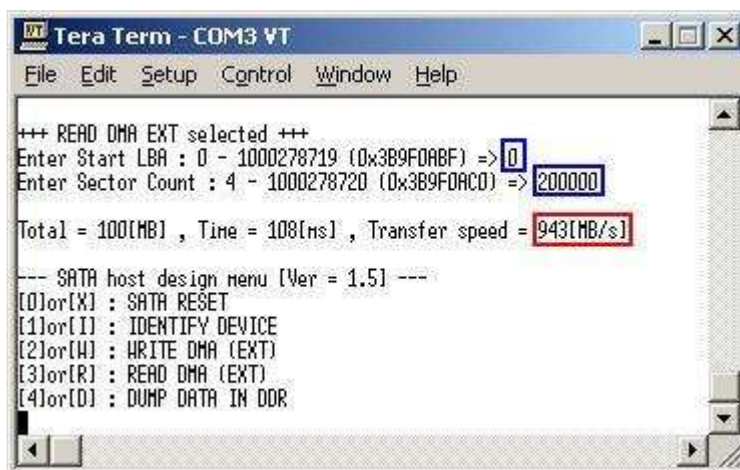

Figure 11 READ DMA (EXT) command without verify
- Sector Count: this value, divided by 4, is used to be total transfer size in sector unit (512 byte) to read HDD/SSD. If this value is more than 131072 which is equal to read buffer size (64 MB) value, transfer speed will be displayed as output without verify, as shown in Figure 11.